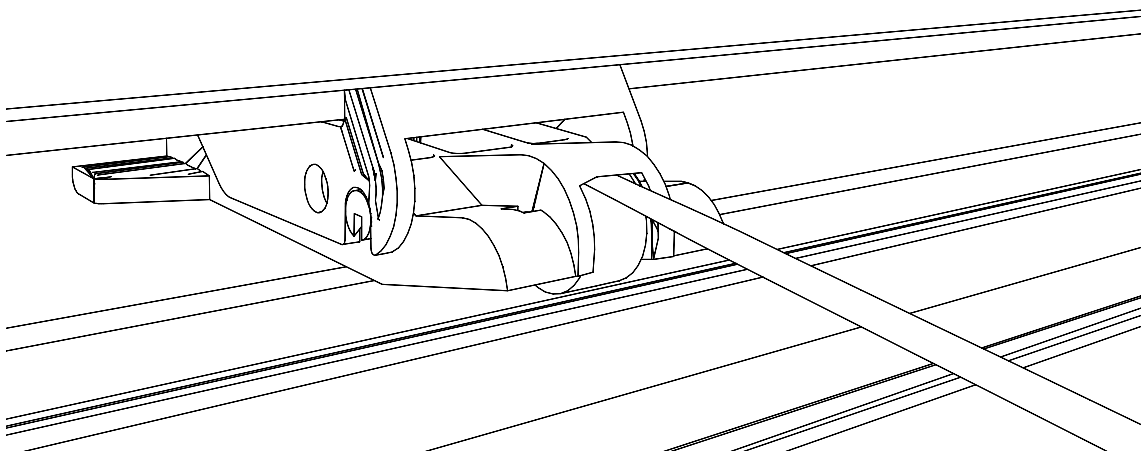

Fig. 11 - Placement of the flat head screwdriver on the wheel for removal.
- 1) Since you don't have to remove the pinch wheel assembly from the machine, this type of wheel replacement is a snap. Start by putting the small flat head screwdriver between the top of the wheel, and the body of the assembly. This space is the "Wheel Window". See Fig. 11